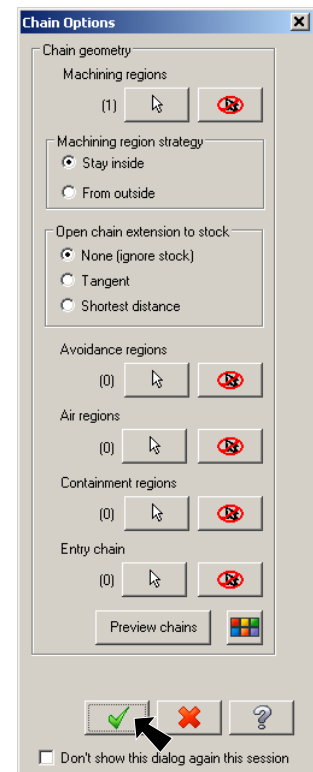

Fig. 45
Step 6. Click OK  in Chain Options box, **Fig. 45**.